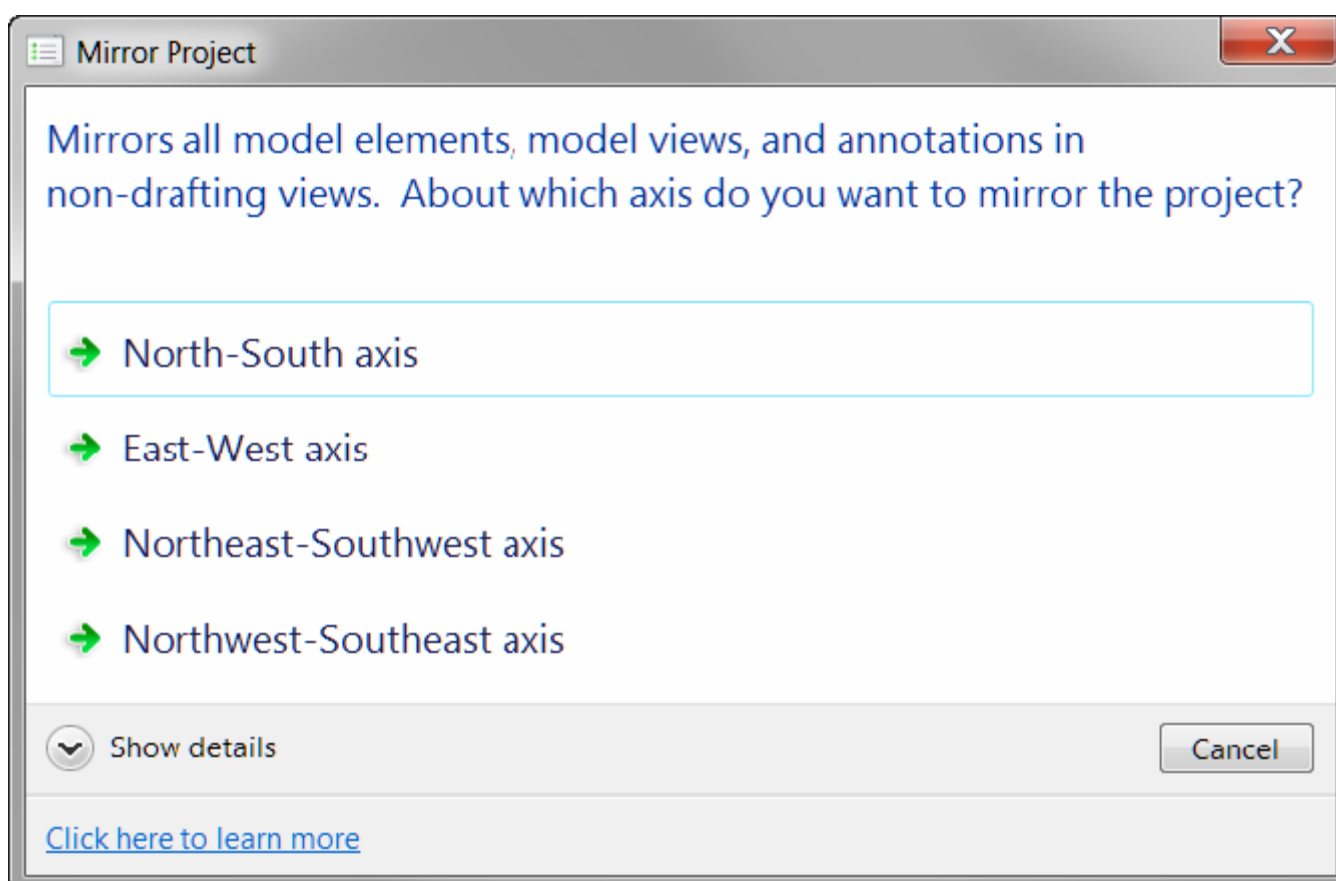

Figure 227 - The Show Details button displays additional Main Content text
- See Figure 227 for an example of a task dialog with OK and Cancel buttons